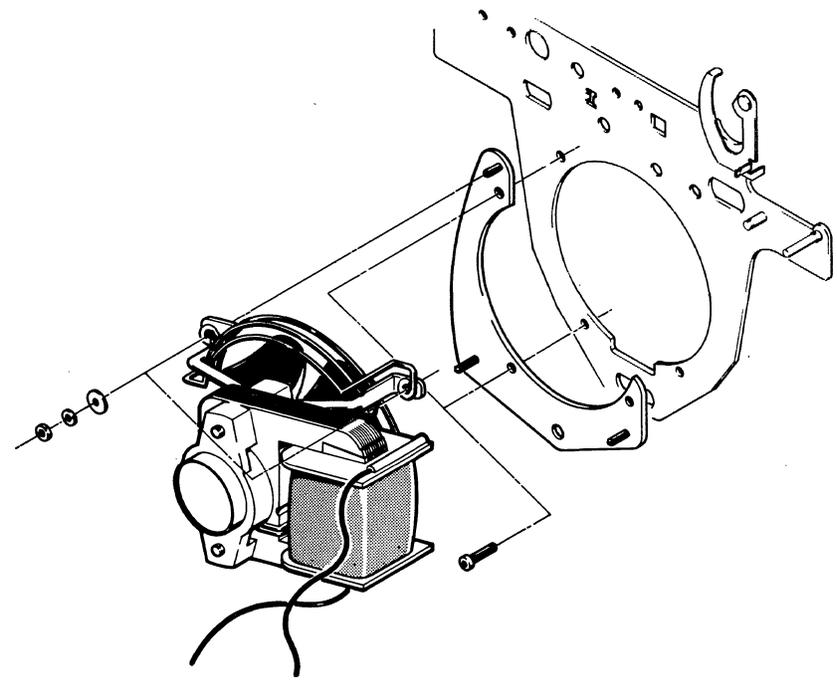

Figure 5-62 COOLING FAN ASSEMBLY INSTALLATION
2. Refer to Figure 5-62. Install the mounting plate on the left-hand carrier side plate as shown, using three (3) 8-32 x .250" thread forming screws.